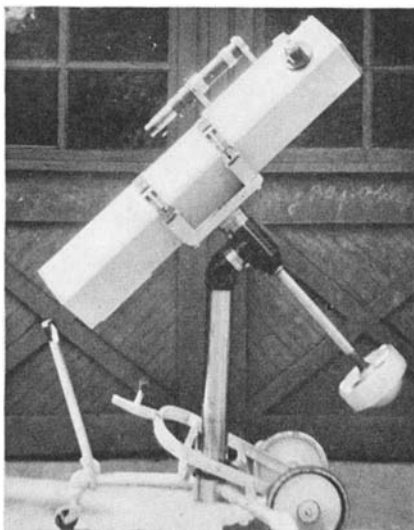

Figure 1: You trundle it
**P**ORTABLE telescopes are not uncommon but the one in Figure 1 has an uncommon feature—its weight may be shifted from wheels to legs; and, later, when it is desired to trundle it back home or indoors, the weight may be shifted back to the wheels.